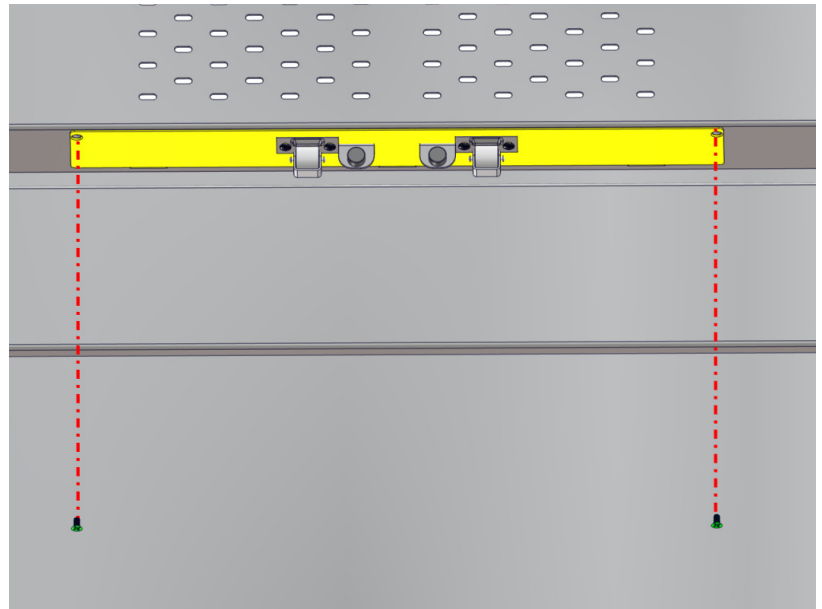

Fig. 9: Remove Access Panel
2. To access the HEPA filter (part #H0213), remove the two screws (shown in green) from the Filter Access Panel (Fig. 9 - shown in yellow).